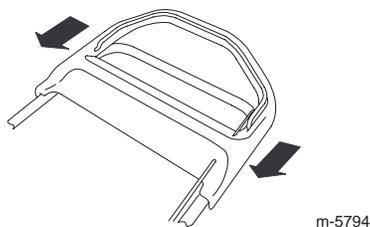

Figure 2
5. Push the handle all the way inward (as shown in Figure 2), and lay the upper handle on a flat surface.